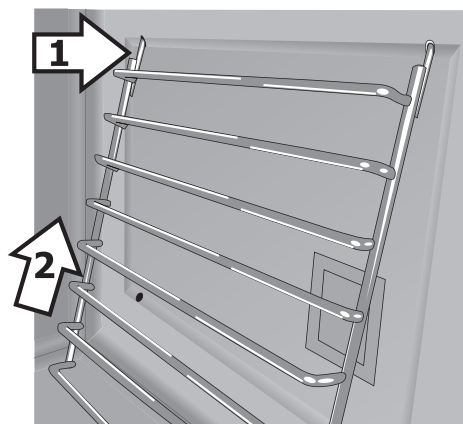

Figure 3:
1. Hold the oven rack support at a slight angle and insert prongs into the holes at the top of the oven cavity (Figure 3).
2. Lift the rack into the top holes, aligning the bottom prongs with the bottom holes (Figure 3).